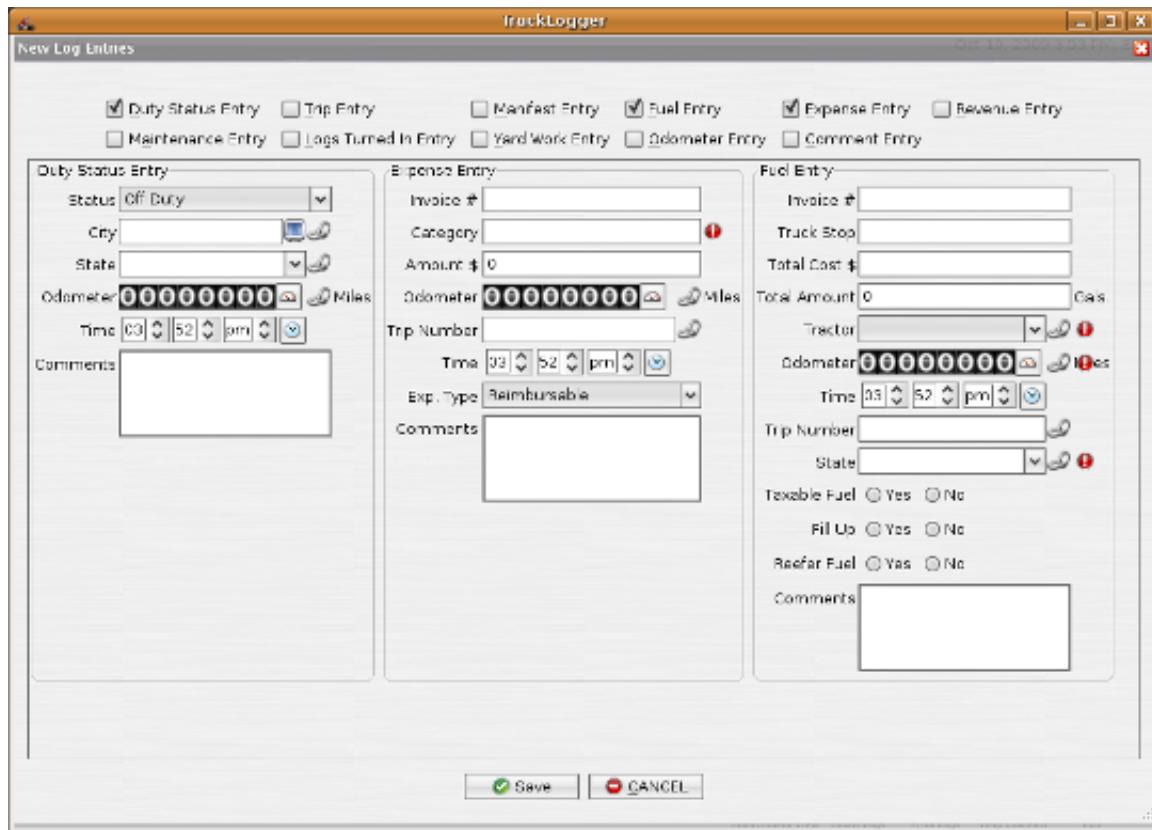

Figure 5.32. Single Dialog Log Entry
Instead of individual dialogs for each log entry type drivers can configure trucklogger to create new log entries of multiple types and link the fields between the log entries types to minimize the amount of typing necessary. When this setting is enabled the New button will become a single click without a drop down list. The dialog that appear will have check boxes to allow drivers to select which log entries they want to fill out see Figure 5.32, "Single Dialog Log Entry".
2. Click the New button and wait for the single dialog to appear, see Figure 5.32, "Single Dialog Log Entry"